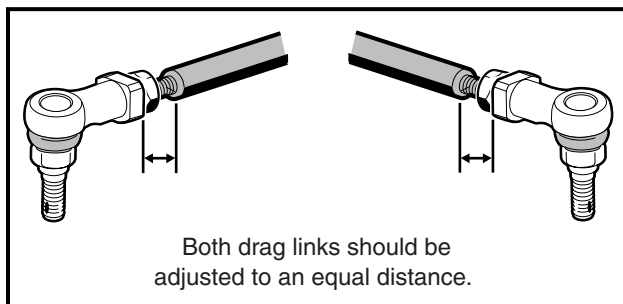

Figure 7-27 Adjust Toe-in
- 6.3. Rotate both of the ball joints an equal amount. To increase the toe-in, rotate both of the ball joints counterclockwise. To decrease the toe-in, rotate both of the ball joints clockwise. Maintain an equal distance from the ball joint to the end of the threads on each drag link (**Figure 7-27, Page 7-13**).